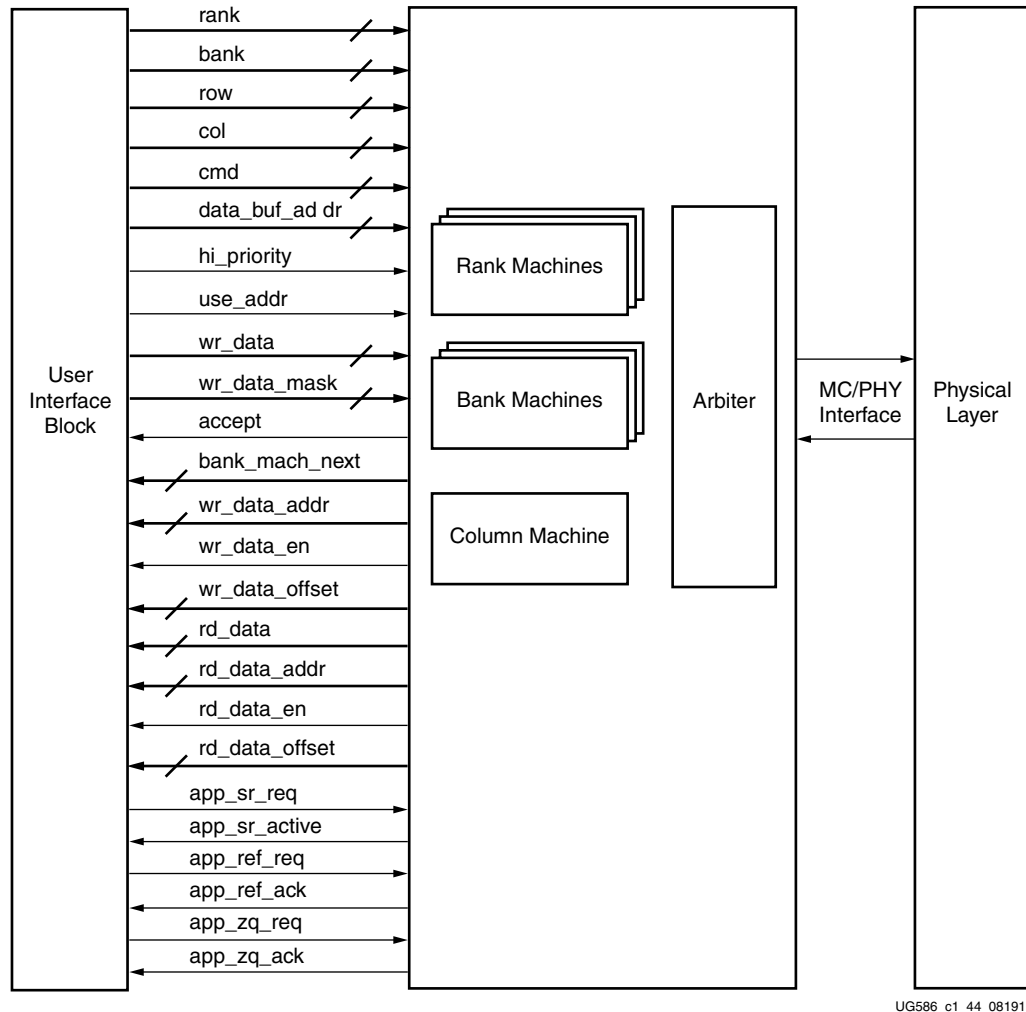

Figure 4-44: Memory Controller
In the core default configuration, the Memory Controller (MC) resides between the UI block and the physical layer. This is depicted in Figure 4-44.